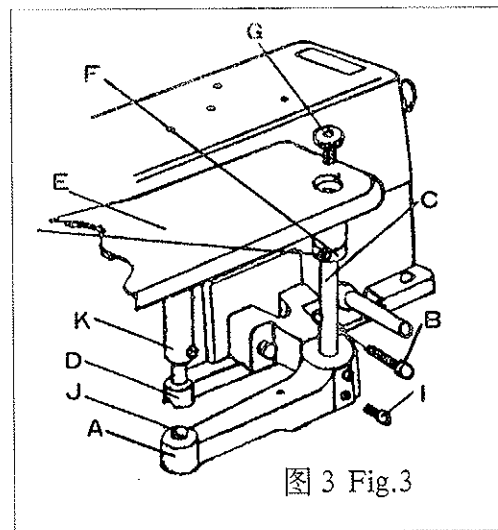

图3 Fig.3
(4) 托板组件的安装(图3)
① 用支座螺钉 "B" 将支座 "A" 固定在机头上(顶销 "J" 和长、短弹簧片已先组装好).
② 将轴肩螺钉 "G" 旋入托架轴 "C" 的螺孔中并紧后将托架轴从上向下插入支座孔中,再套上挡圈 "F",旋紧挡圈螺钉 "H",使托架轴定位,但转动应灵活.
- ③将定位销“D”插入定位套筒“K”的孔中,用螺钉按定位方向固定.
- ④将托架轴“C”插入支座右孔中,调节好托板“E”高度后旋紧螺钉“J”。
- ⑤开闭托板应灵活,能自锁.
(4) Fitting work plate components(Fig.3)
① Fix bracket "A" on machine head with bracket screw "B" (Spring pin "J", short and long spring leaves are already assembled).
② First turn collar screw "G" up tight into the hole of work plate shaft "C", and then insert the work plate shaft into the hole of the bracket,finally put on retainer ring "F" and tighten retainer ring screw "H". Be sure to make the shaft rotate smoothly while securing the work plate shaft in place
③ Insert positioning pin "D" into the hole of positoning sleeve "K" and turn it up tight with screw in direction of location.
④ Insert work plate shaft "C" into the right hole of the bracket,after regulating the height of the wore plate "E", tighten screw "I".
- ⑤ Be flexible to open or close work plate; capable of auto-lock control of it.